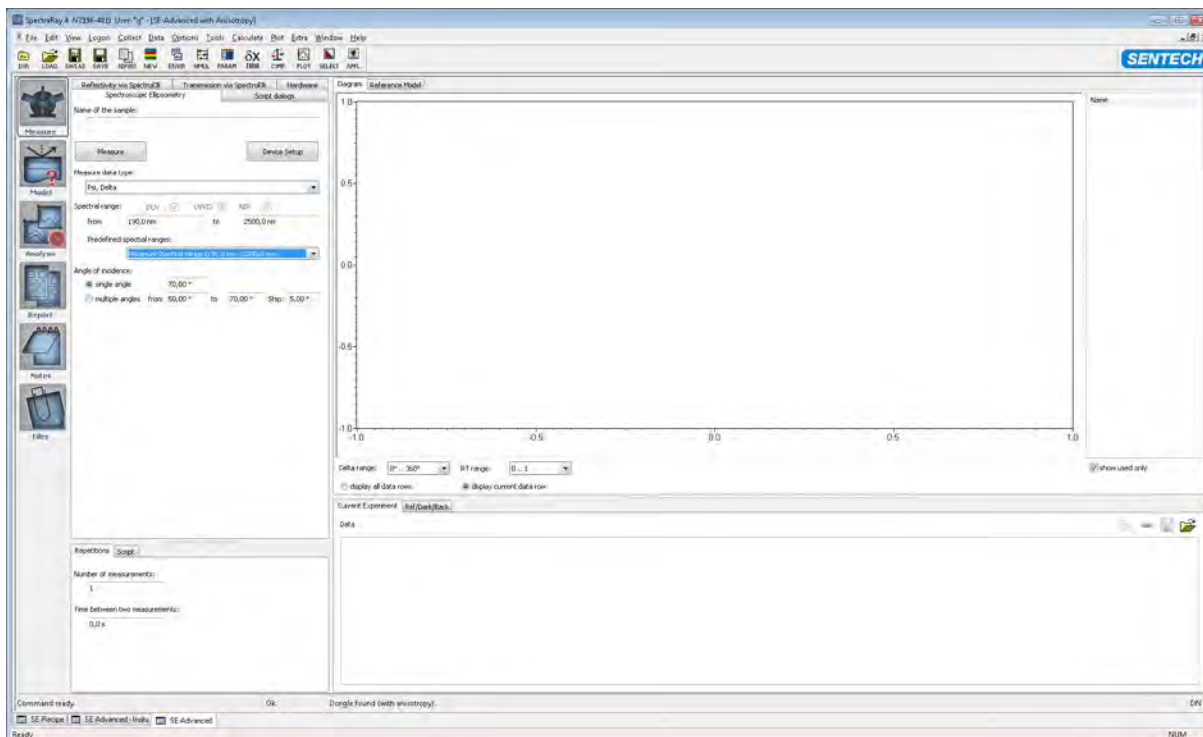

Fig. 8-8 Measurement settings
- Select the standard settings as shown in Fig. 8-8.